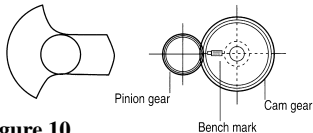

Figure 10
c. Rotate the crankshaft counter-clockwise 180 degrees, placing the left piston at top dead center. Refer to **Figure 10**.